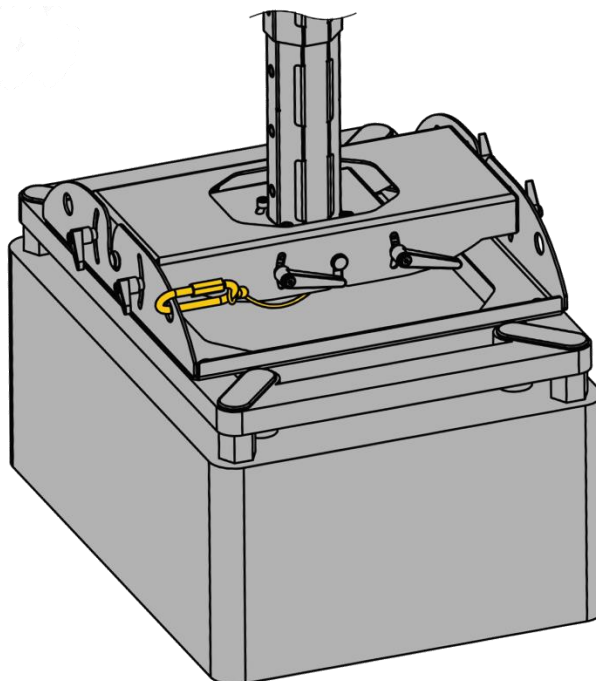

Figure 96: Step 14
Step 14: Attach the other end of the safety cable ⑫ to the projector plate ⑥ using a quick link, as shown in **Figure 96**.